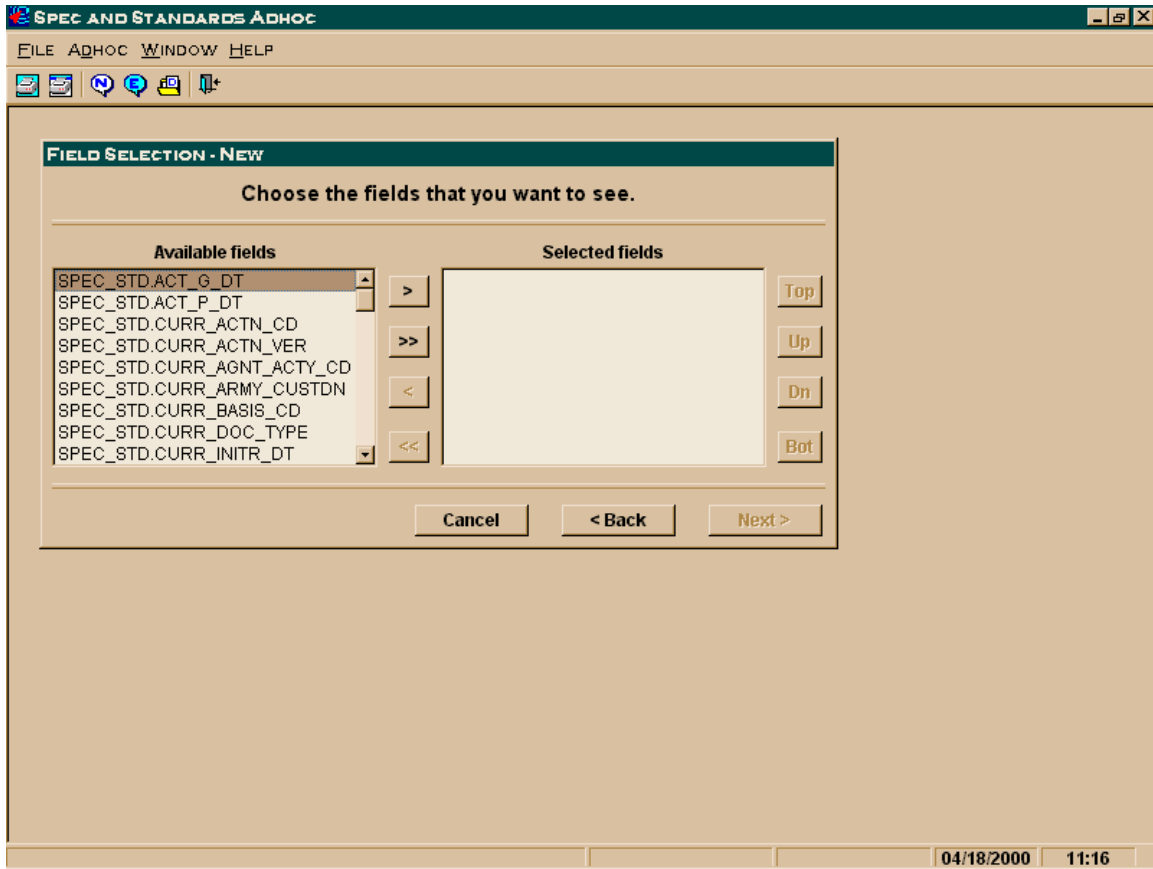

Figure 6.4b
d. After clicking on [Next>], the system will retrieve the data element fields available on the table or table(s) you selected, bringing up the Field Selection window (see Figure 6.4b). You may now select the elements you want to be part of your output (displayed after your query is input). Highlight as before and then click the > button to move to Selected Fields area. The >> button will move all fields at once. Double-clicking on the element will also move back and forth.